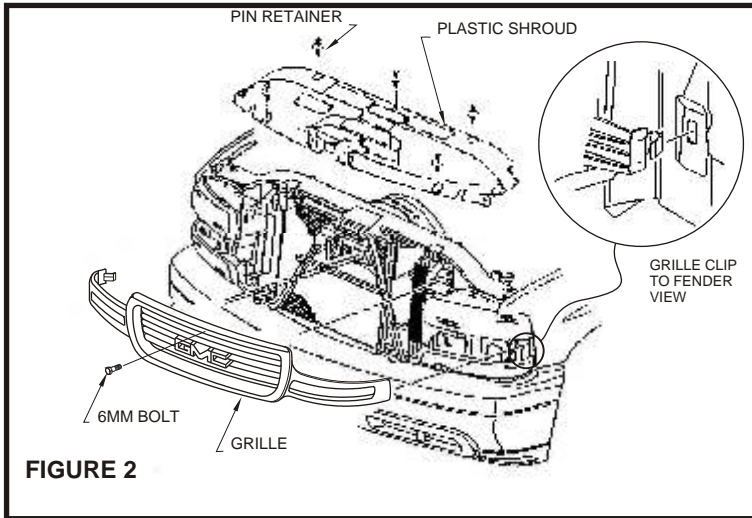

FIGURE 2
- STEP 4. Fasten uprights to top, center and bottom tubes using (4) 1/2-13 x 1.50" stainless steel flat head bolts, (4) 2 3/4" OD plastic washers, (2) 3/8-16 x 1.00" stainless steel button head cap bolts, (2) 3/8" stainless steel internal tooth lock washers and (2) 1 5/8" OD plastic washers. Level tubes and torque: 1/2" fasteners to 60 FT. LBS. And 3/8" fasteners to 30 FT. LBS.
- STEP 5. Remove plastic shroud above grille by removing the seven push pin retainers. Pull center of pin up with small flat screwdriver. See Figure 2.
- STEP 6. Remove grille from truck by removing 6mm bolt from top of grille. Then pull on outer edge of grille by applying firm pressure away from the fender, repeat on the opposite side and center section. Carefully remove grille from vehicle. See Figure 2.